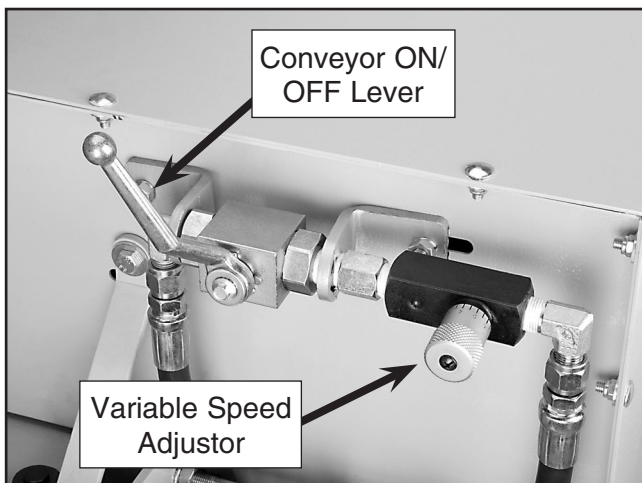

Figure 33. Conveyor controls.
4. Push the PUMP START button and move the conveyor ON/OFF lever forward to start the conveyor belt (see **Figure 33**).
5. Adjust the conveyor speed with the variable speed adjustor shown in **Figure 33**. If the blade continually rotates the support bearing, reduce the speed of the conveyor.